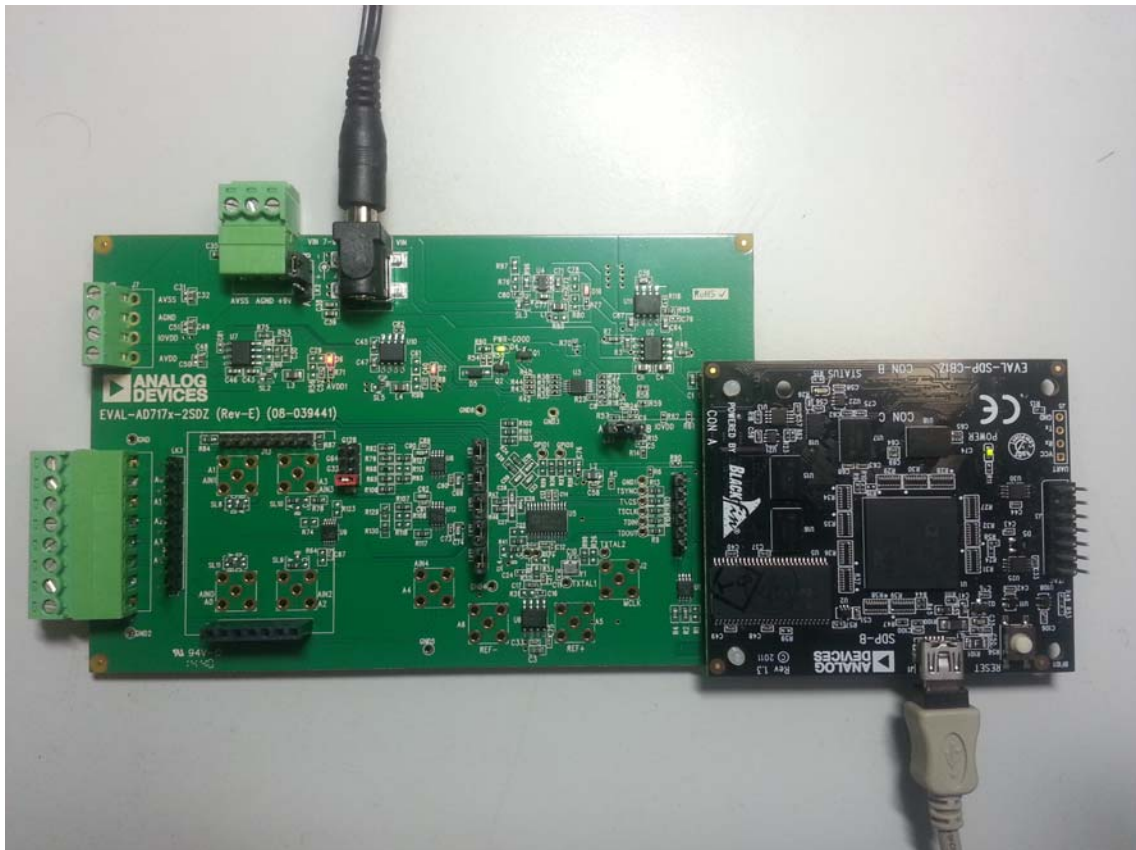

Figure 2. Hardware Configuration, Setting Up the EVAL-AD7177-2SDZ Evaluation Board
4. Connect the **SDP-B** board to the **EVAL-AD7177-2SDZ** evaluation board, as shown in Figure 2.
6. Connect the external 9 V power supply to the J5 connector of the evaluation board as shown in Figure 2. Set Link LK2 to Position B.